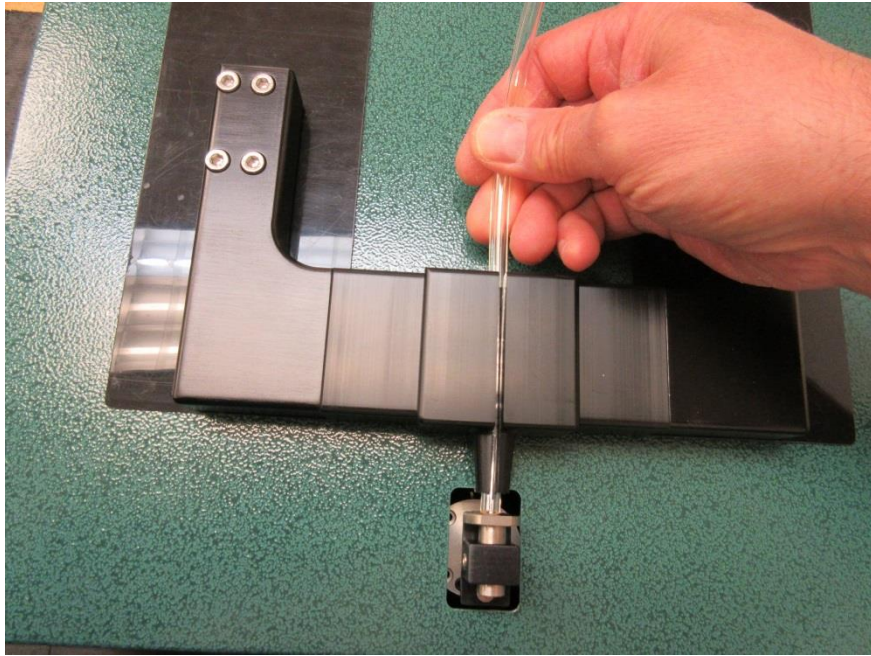

Figure 16: Placing tubing against the stop block
- With jaws in position 1 (Figure 16), insert tubing into the jaws and push the tubing against the stop gate as shown, below.